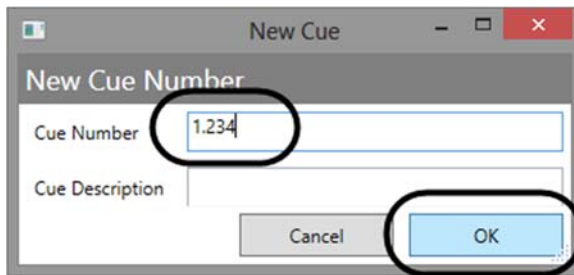

Figure 37
2. The **New Cue** dialog appears and suggests a **Cue Number** of 2, since that is the next highest whole number for a cue. Even though it was nice of Spikemark to offer a suggestion, let's type in "1.234" for a cue number and then press OK (Figure 37).